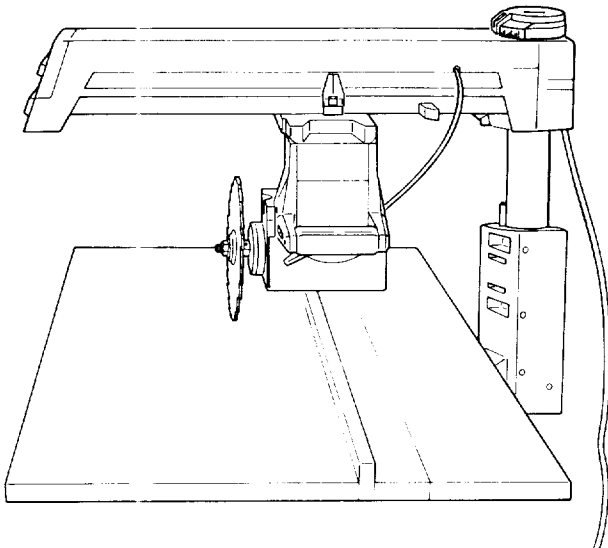

Fig. 67 - Out-Rip Position
1. Unlock the *swivel lock* and turn the *motor* to the out-rip position with the *motor* between the *blade* and *fence*. (Figure 67)